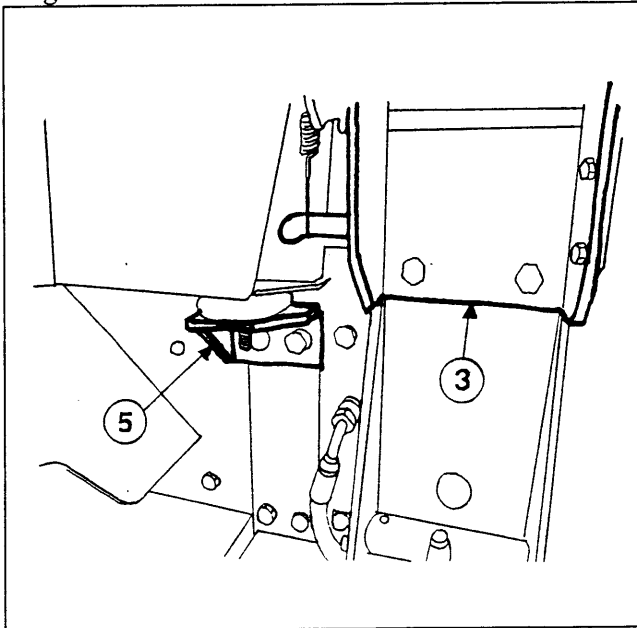

Figure 4
as removed in step 4 using the factory hardware (see Figure 4).
8. Locate the top two 12mm hex bolts, behind the left fender, used to fasten the front deck mount to the chassis and remove. Take the left rear bracket (5) and position it against the two-hole bolt pattern with the cab mounting plate to the front and outside. Loosely bolt the bracket, through the mount, to the chassis using the 12x50x1.75mm hex bolts and 1/2" lockwashers supplied (see Figure 4).